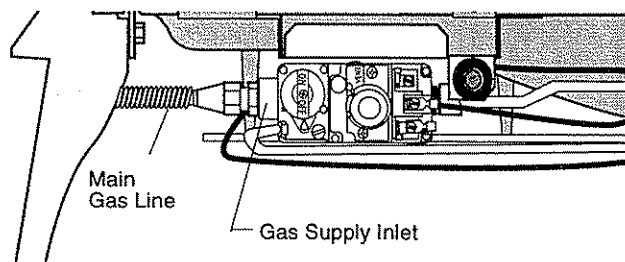

Figure 34. The gas supply line connects to the inlet to the left of the control valve.
1. Connect the main Gas Supply to the control valve inlet, Fig.34. A 1/8-inch N.P.T. plugged tapping, accessible for test gauge connection, must be installed on the inlet gas connection.